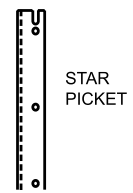

FIG. 3
7. Place a 1650 mm long star picket (Fig. 3) through the cuts in the top and bottom flanges on the left-hand end of the panel, with holes in picket furthest away from you.